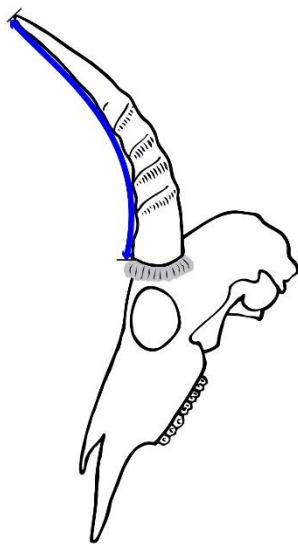

Figure 11 Reedbuck
All species of reedbucks, but especially the common reedbuck, form a pulpy section at the base of the horn. This soft material can easily be penetrated with the point of a knife. This is horn in formation but not hard horn, and it must not be measured. Probe the horn for soft material with a knife point; the demarcation between soft and hard horn will be the point where you start your measurement. (Figures 11 and 12) Most of the soft, green material will be removed during the cleaning process, but sometimes a leatherlike residue will remain. This should not be measured, so be careful where you place the tape measure at the start. A reedbuck is best measured after cleaning but before mounting as the exact base of the horn will be much more easily discerned. With mounted reedbuck heads, you will often find the taxidermist has used materials to build up an artificial pulpy section—this artificial material must not be measured. With a mounted head, remember that just because the material feels hard to the touch, this does not mean it is horn. Probe with a knife point to find out where to start the measurement of the horn length.
1. Length. Measure the length of the each horn on the front curve (in the center of the horn) from the lowest edge of the base to the tip. Do not measure the “green” or soft horn that forms a pulpy section at the base of the horn. (Figures 11 and 12) With reedbucks the horns curve up and forward and with some varieties they also curve inward; with such heads it is easy to slowly slide off to the outer curve of the horn rather than staying on the front. Make sure to stay in the center front of the horn.